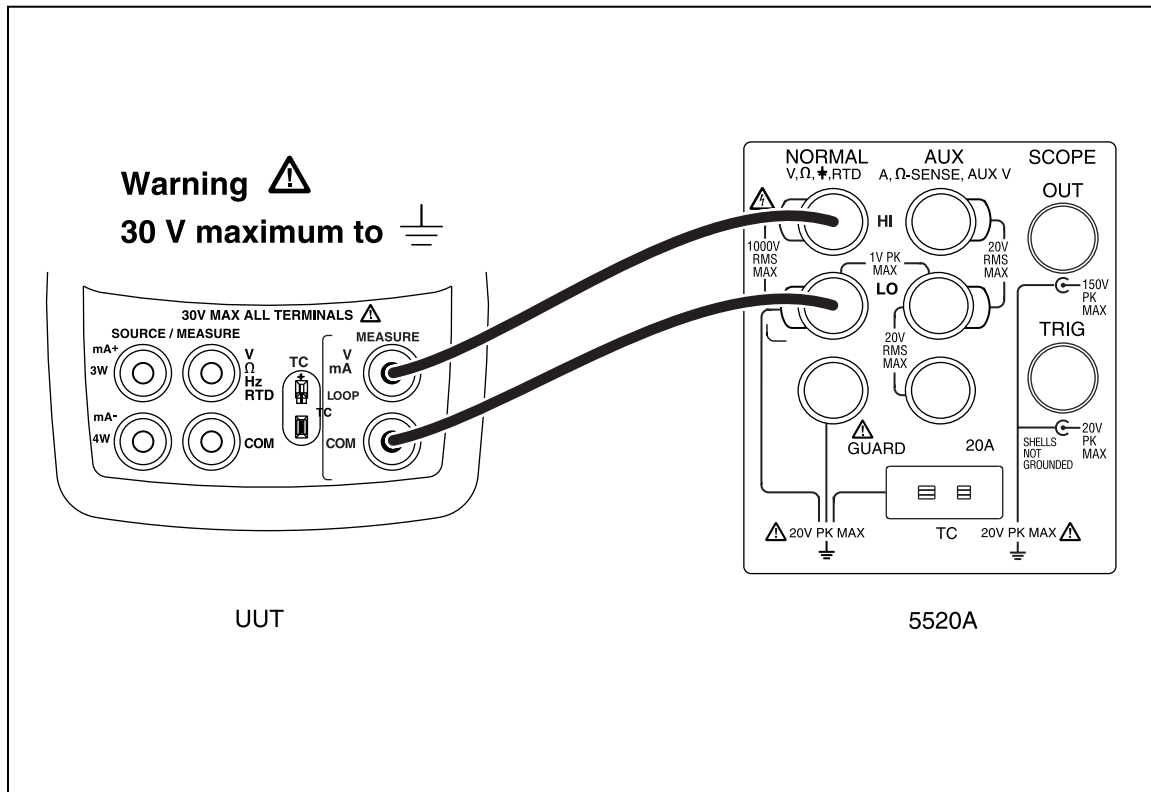

Figure 2. Upper Display Voltage Test Connections
3. Make the connections shown in Figure 2.